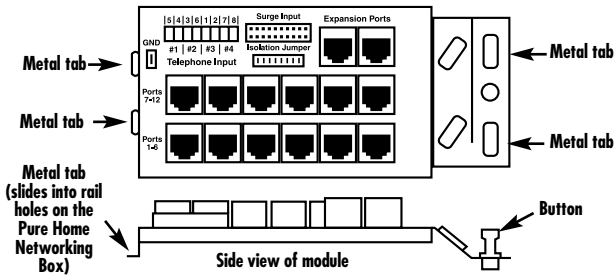

Figure 2-1. 1 x 12-Port CAT3 Expansion Telephone Module, Bridged, T568A (JHN2011A).
The Pure Home Networking 1 x 12-Port CAT3 Expansion Telephone Module, Bridged, T568A (JHN2011A, see Figure 2-1) supports twelve T568A RJ-45 telephone connections from one four-pair phone line via 110-type termination or an RJ-45 input port. It includes two expansion ports, one surge protector interface, and one isolation jumper.
2. Position the metal tabs on the left side of the module at a 45-degree angle and slide them into the rail holes on the Pure Home Networking Box (see Figures 2-1 through 2-3).